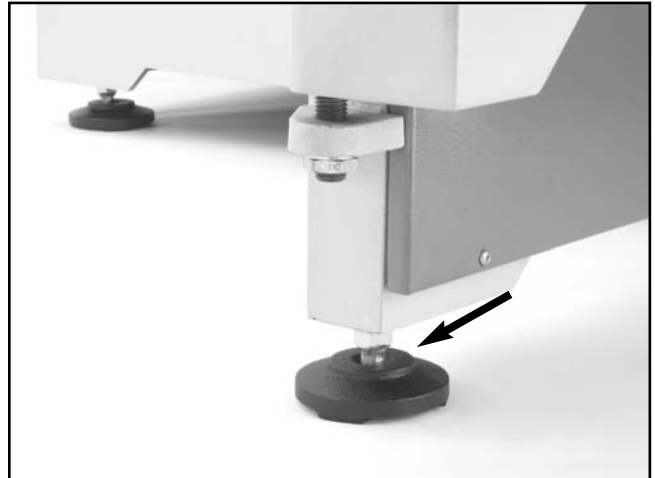

Figure 20. Foot studs placed in base feet.
6. Remove the safety blocks and lower the saw onto the feet as shown in **Figure 20** and remove the forklift straps.